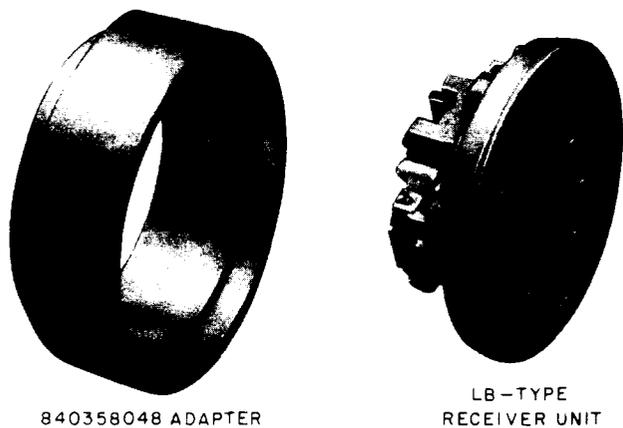

Fig. 3—Current Receiver Assembly
**Note 2:** When replacing a U3 or U4 receiver unit with a LB1 or LB3 receiver unit an adapter (Fig. 3) is required. Two 834851107 (P-48V110) screws are provided loose with LB-type receivers for connection to the cord.